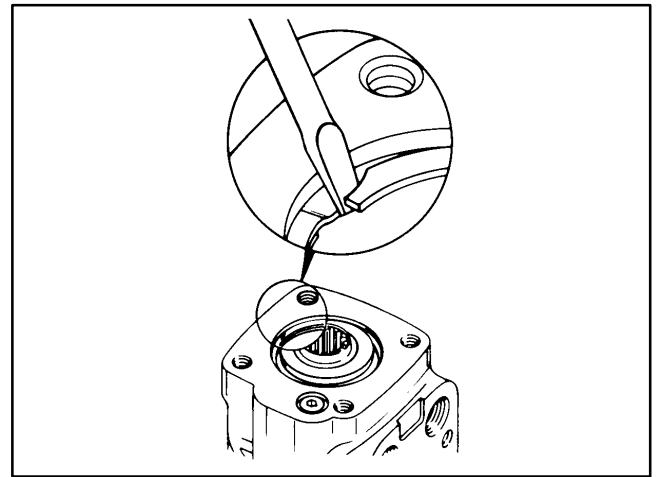

Figure 29
11. Remove housing from vise. Place housing on a clean soft cloth to protect surface finish. Use a thin-blade screwdriver to pry retaining ring from housing, as shown in Fig. 29.